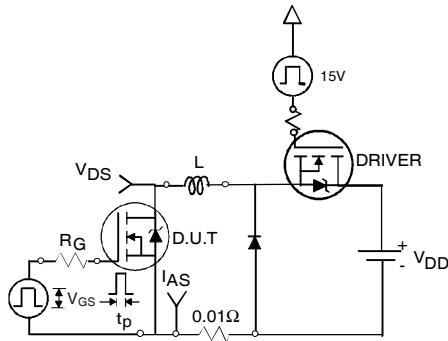

Fig 12a. Unclamped Inductive Test Circuit
- ③ Pulse width $\leq 1.0ms$; duty cycle $\leq 2\%$.
- ④ $C_{oss\ eff.}$ is a fixed capacitance that gives the same charging time as C_{oss} while V_{DS} is rising from 0 to 80% V_{DSS} .
- ⑤ Limited by T_{Jmax} , see Fig.12a, 12b, 15, 16 for typical repetitive avalanche performance.
- ⑥ This value determined from sample failure population. 100% tested to this value in production.
- ⑦ This is applied to D²Pak, when mounted on 1" square PCB (FR-4 or G-10 Material). For recommended footprint and soldering techniques refer to application note #AN-994.
3. Equation below based on circuit and waveforms shown in Figures 12a, 12b.